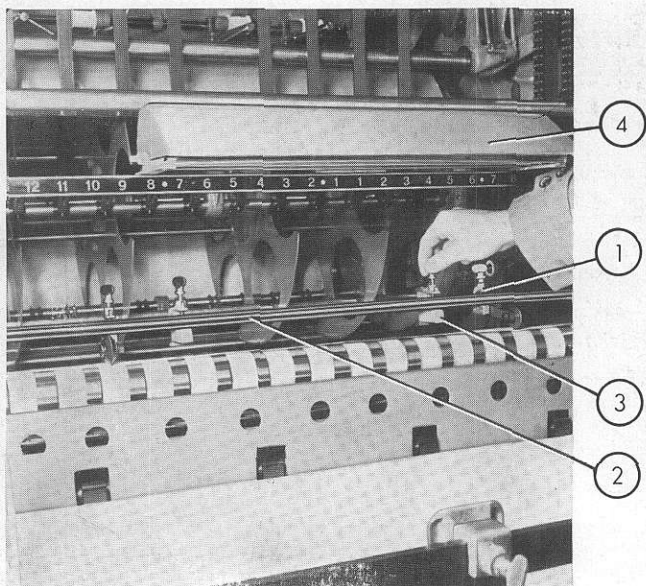

Fig. 17
- **two sheet roller guides.** These rollers 1 (fig. 17), are adjustable to size of sheet on the traverse rod located above the tapes.
- **two electrical contacts.** These contacts 3 (fig. 17), are movable and should be set to suit size of sheet: they operate when the sheet delivery is irregular and trip the press.
- **Lighting.** A lamp and switch are located right over the delivery unit 4 (fig. 17).